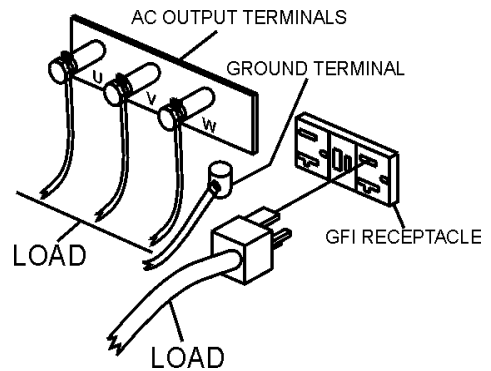

Figure 37. UVW Terminal Lugs (Load)
2. Connect the load to the UVW terminals as shown in Figure 37. These terminals can be found on the output terminal panel, (see page 22 Figure 6). To gain access to the output terminals lift the UVW cover. Tighten terminal nuts securely to prevent load wires from slipping out.